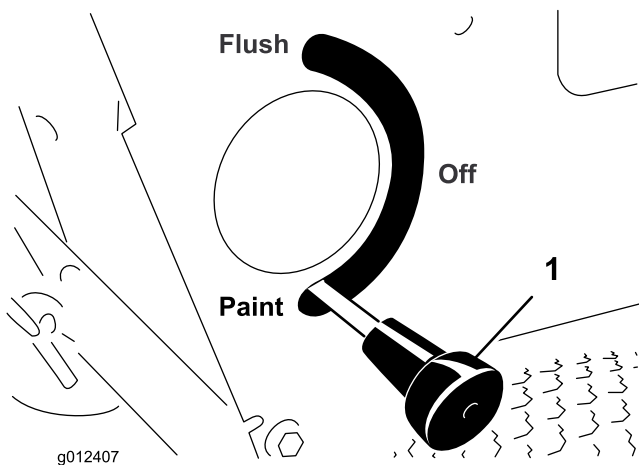

Figure 33
6. Make sure the Flush/Paint lever (Figure 33) is in the PAINT position.